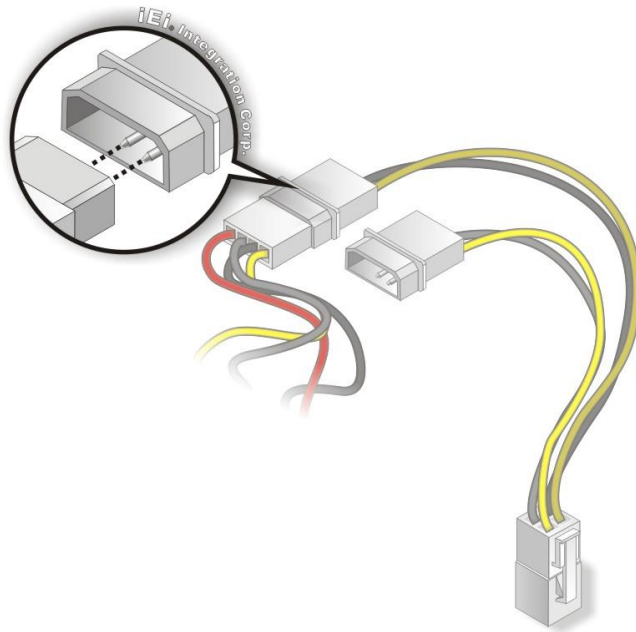

Figure 4-21: Connect Power Cable to Power Supply
Step 3: Connect power cable to power supply. Connect one of the 4-pin (1x4) Molex type power cable connectors to an AT power supply. **See Figure 4-21**